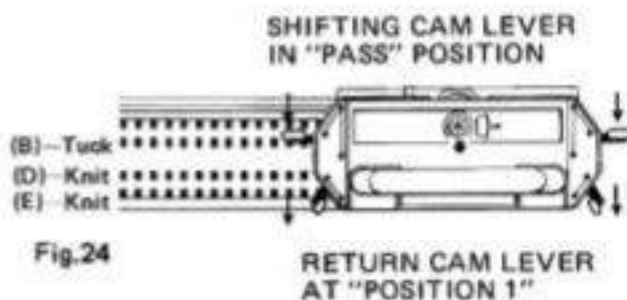

Fig.24
In this setting, and at the same time with both shifting cam lever in "PASS" position and return cam lever at "Position 1" as shown in Fig.24, needles in position (D) or (E) will knit, while needles in position (B) will come forward and pick up a strand of wool but will not knit the previous stitch.